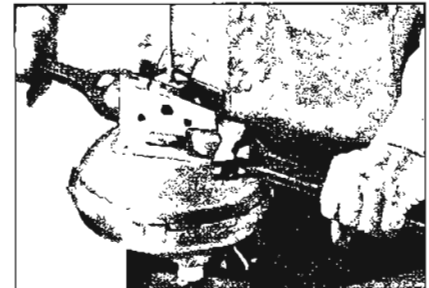

Figure 9-40—Power Brake Unit Positioned in a Vise
2. With the master cylinder reservoir unit firmly clamped in a vise, place two adjustable wrenches of at least 10" in length, so that each wrench will grip on a bracket. Rotate the housings counterclockwise into the unlocked position. See Figure 9-40.